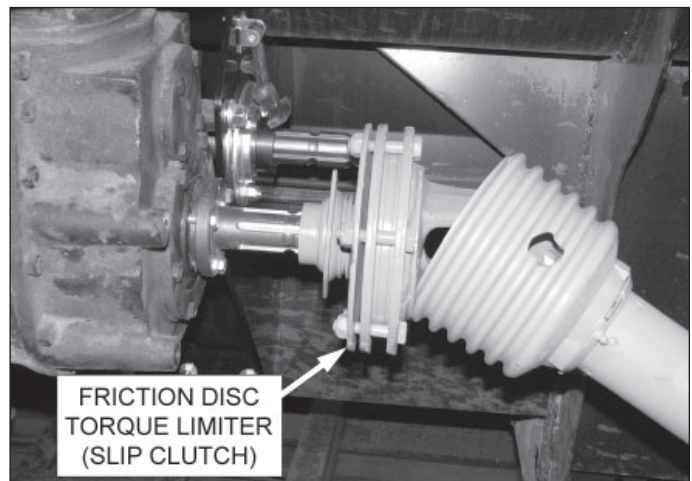

Figure 76: Friction disc torque limiter (slip clutch)
5. Check the condition of all parts, especially the friction discs (Figure 76).